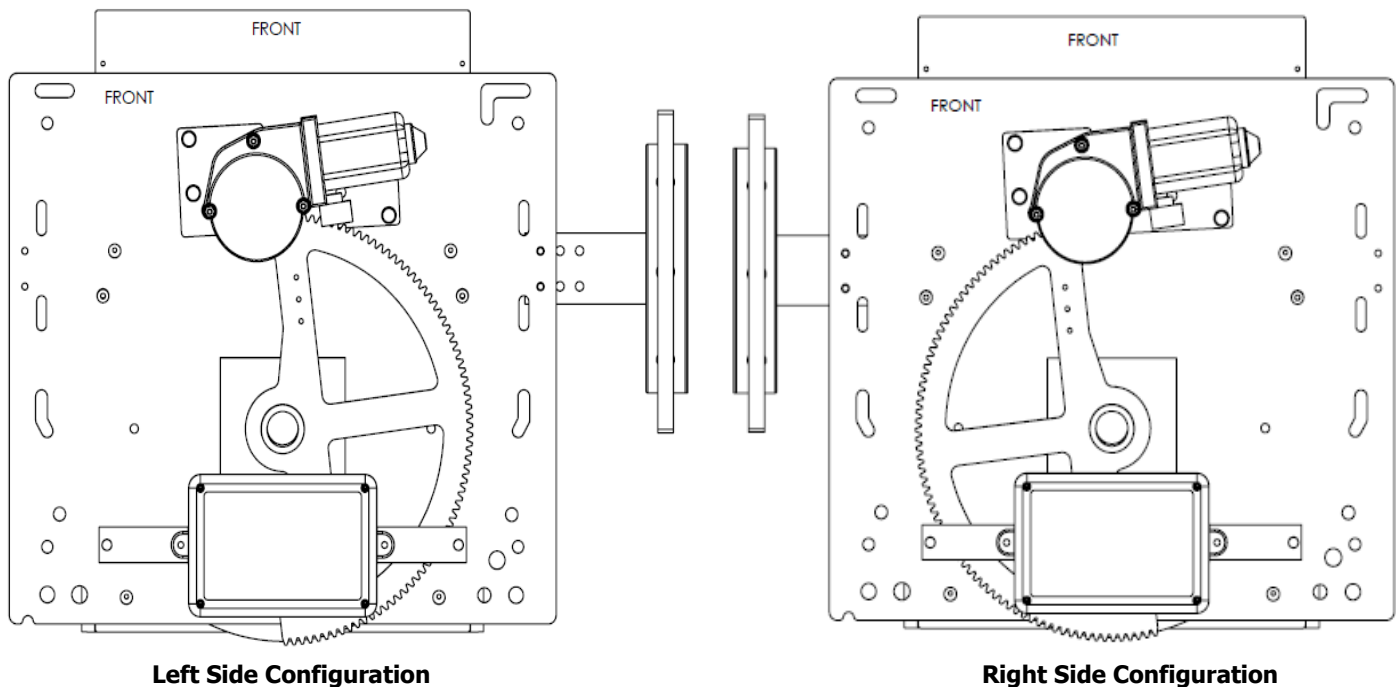

Figure 1.2
Figure 1.2 highlights the positioning of the switch box and swivel gear for both a seat base positioned on the left side of a vehicle as well as the right side.
- 6.) Check rotation (SEE: Figure 1.2, Page 3) to ensure the swivel gear is properly aligned.